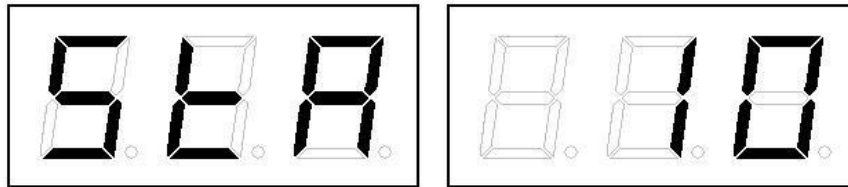

Figure 3.1 Static Balancing Display
- Static balancing mode and dynamic balancing mode are toggled by pressing **【F】** key. In STA mode the screen will show as below Figure 3.1